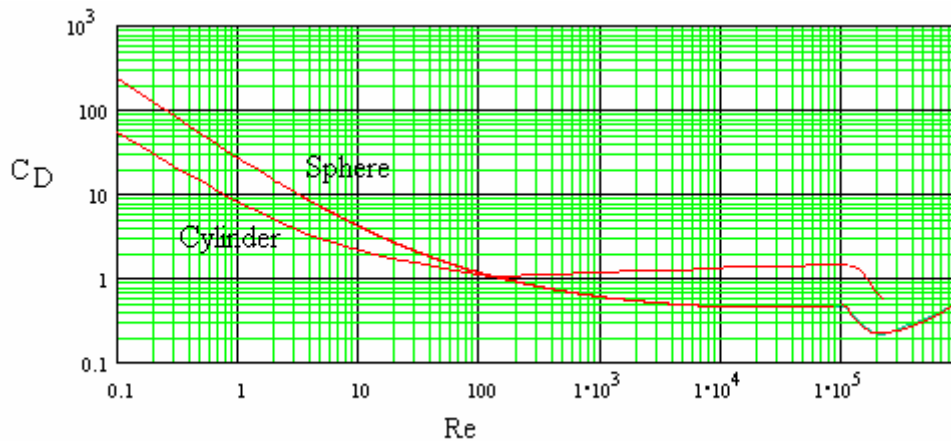

Fig.12
Fig. 12 shows an approximate relationship between C_D and Re for a cylinder and a sphere.
2. Using the graph (fig.12) to find the drag coefficient, determine the drag force per metre length acting on an overhead power line 30 mm diameter when the wind blows at 8 m/s. The density of air may be taken as 1.25 kg/m^3 and the kinematic viscosity as $1.5 \times 10^{-5} \text{ m}^2/\text{s}$. (1.8 N).
Fig. 12 shows this approximate relationship between C_D and Re .
4. Using the graph (fig. 12) to obtain the drag coefficient of a sphere, determine the drag on a totally immersed sphere 0.2 m diameter moving at 0.3 m/s in sea water. The density of the water is 1025 kg/m^3 and the dynamic viscosity is $1.05 \times 10^{-3} \text{ Ns/m}^2$. (0.639 N).